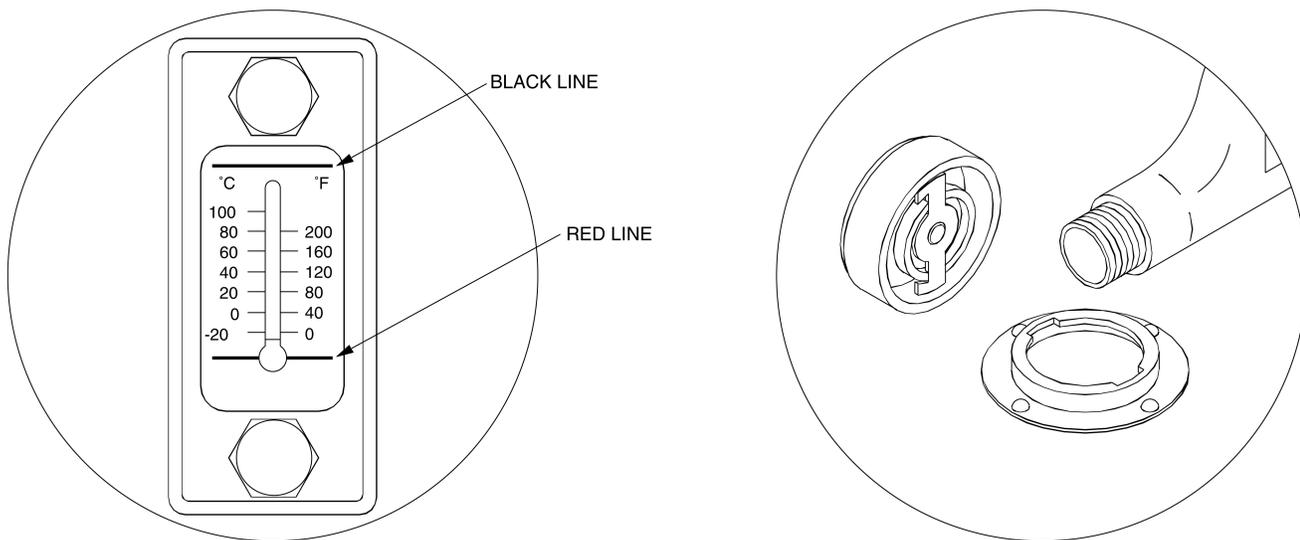

Figure 1-16. Oil should cover but not be over the black line.
- b. Check the level of the oil in the reservoir as indicated by the temperature/oil level indicator on the Power Unit. The red line indicates the low oil level and the black line indicates the full oil level. With the Power Unit off, oil should cover, but not be over, the black line above the indicator, as Figure 1-16 shows.